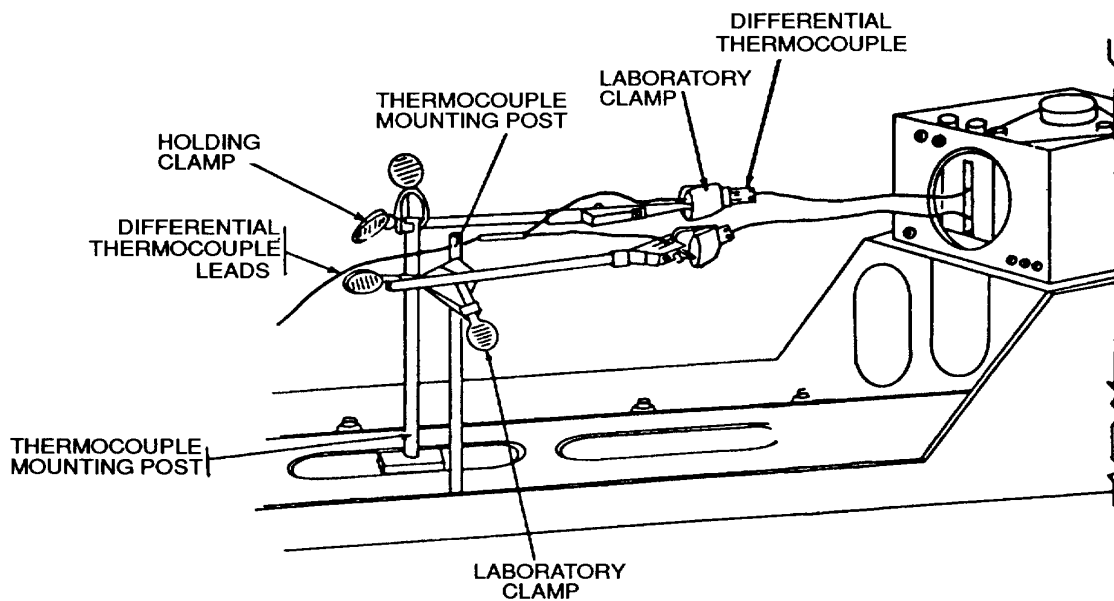
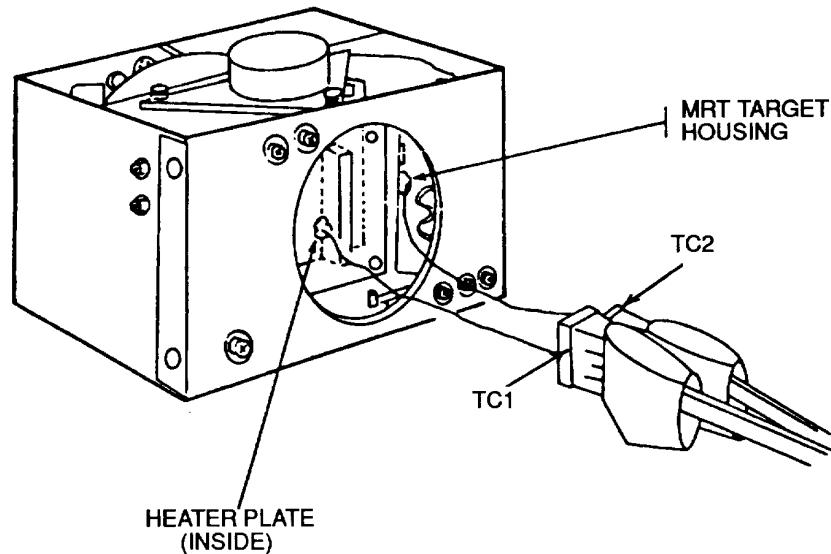

Figure 2. Equipment setup.
Figure 3. Temperature controller – heater plate.
- c. Connect equipment as shown in figure 2 and as described in (1) and (2) below:
- (1) Install thermocouple mounting post (pair) on base of TI (approximately center of second slot pair from exit port).
- (2) Clamp differential thermocouple set (pair) in laboratory clamps and install on thermocouple mounting posts, using mounting post clamps.
- d. Using cotton tip applicator wood end, daub a small amount of thermally conductive paste on the extreme bottom of heater plate (fig. 3) on front of temperature controller.
- e. Place tip of thermocouple TC1 (fig. 3) against bottom of heater plate, in the thermally conductive paste.
g. Increase tension on thermocouple TC1 (fig. 3) to produce a moderate bow in thermocouple wire by sliding laboratory clamp forward (toward temperature controller) in mounting post clamp; then tighten mounting post clamp.
h. If necessary, physically position thermocouple TC1 on heater plate to the position shown in figure 3.
i. Daub a small amount of thermally conductive paste on side of brass housing of MRT target (fig. 3) housing (on temperature controller) and place tip of thermocouple TC2 (fig. 3) in the thermally conductive paste.
j. Repeat technique of f through h above for thermocouple TC2 (fig. 3).
k. Place leads from differential thermocouple (fig. 2) on base of TI near exit port.